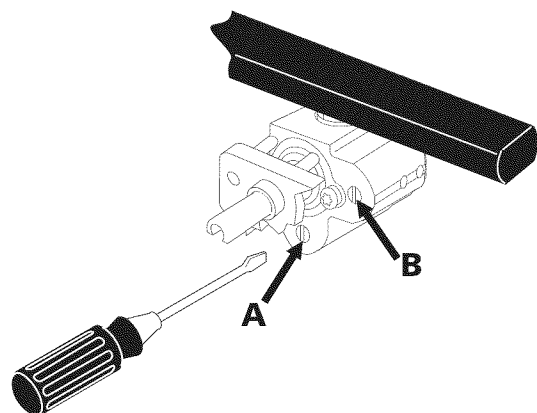

Figure 14
11.5 Adjust the "LOW" setting of the dual valve (Fig. 14)